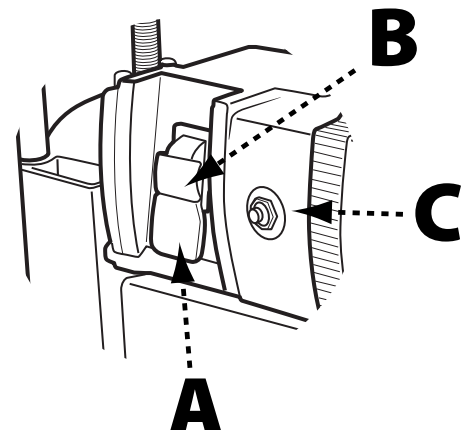

FIGURE 3
The ON/OFF switch (A), indicated in Figure 3, is located on the front of the cabinet. To turn the machine "ON," move the switch to the up position. To turn the machine "OFF," move the switch to the down position.
1. This machine uses a safety key (B), shown in Figure 3, that enables you to lock the tool in the "OFF" position when not in use.
As an additional safety feature, the DELTA® 22-555 has an on-board circuit breaker (C), shown in Figure 3. Should the motor become overloaded or should a power surge occur while the machine is operating, the circuit breaker will trip, cutting power to the machine.